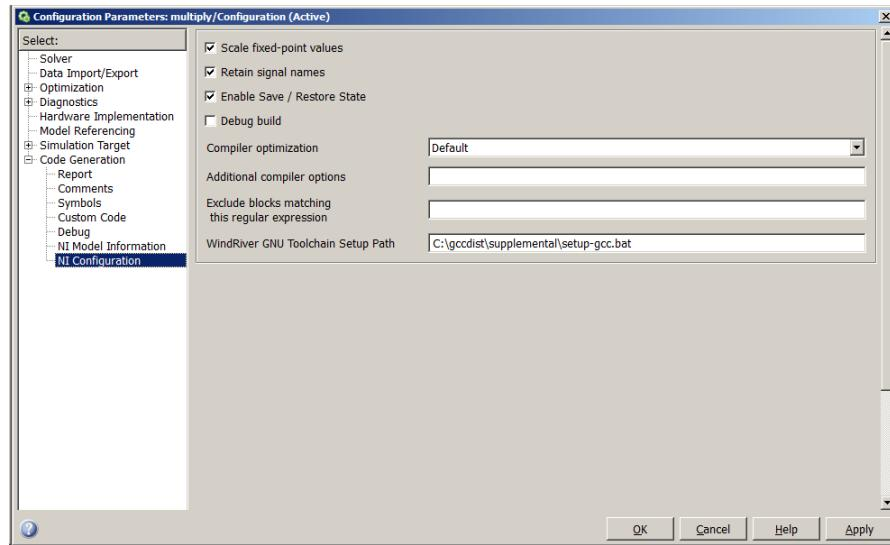

Figure 9: Simulink model configuration - NI configuration
- 4. Make sure that the WindRiver GNU Toolchain Setup Path is correct, Figure 9